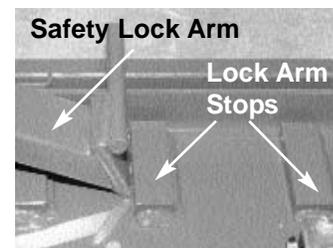

Figure 25
5. Partially depress the down button to allow the machine to lower engaging the safety lock arms with the lock arm stops. (See Figure 25.)